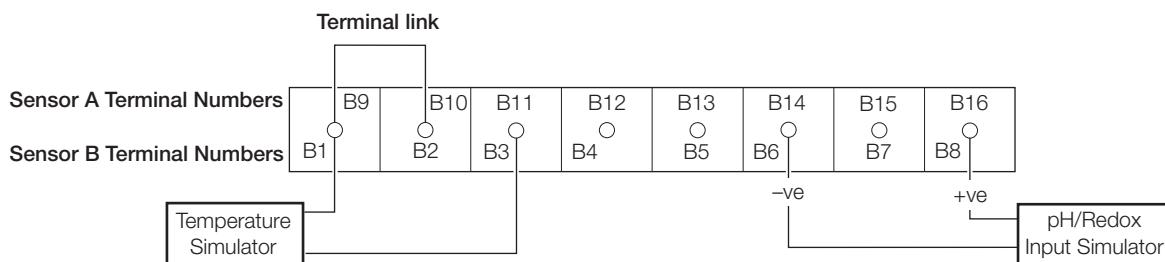

Fig. 7.1 Analyzer Terminal Links and Decade Resistance Box Connections
2. Sensor A – Fig. 7.1:
- Sensor B (dual input analyzers only) – Fig. 7.1: